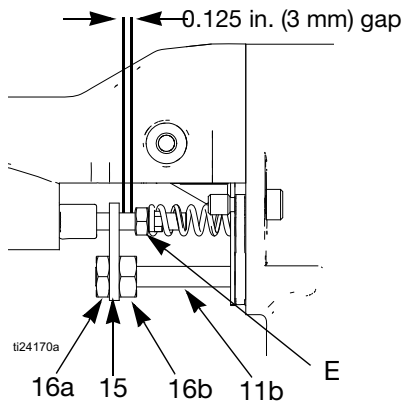

FIG. 25. Actuator Arm Adjustment
2. Remove the air cap. See page 32, step 2. Remove the gun shroud (26).
3. Remove the jam nut (16), actuator arm (15), and adjustment nut (16). See FIGURE 25.
See FIGURE 25.
5. Remove the adjustment nuts (16a) and actuator arm (15). See FIGURE 25.